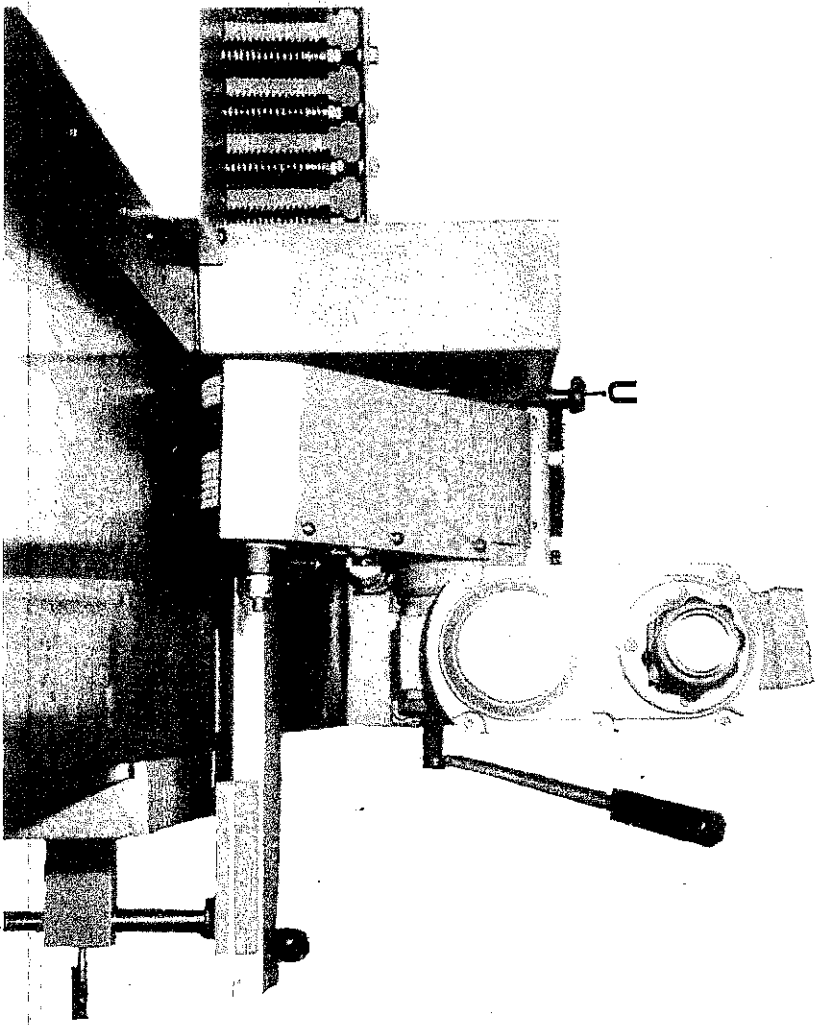
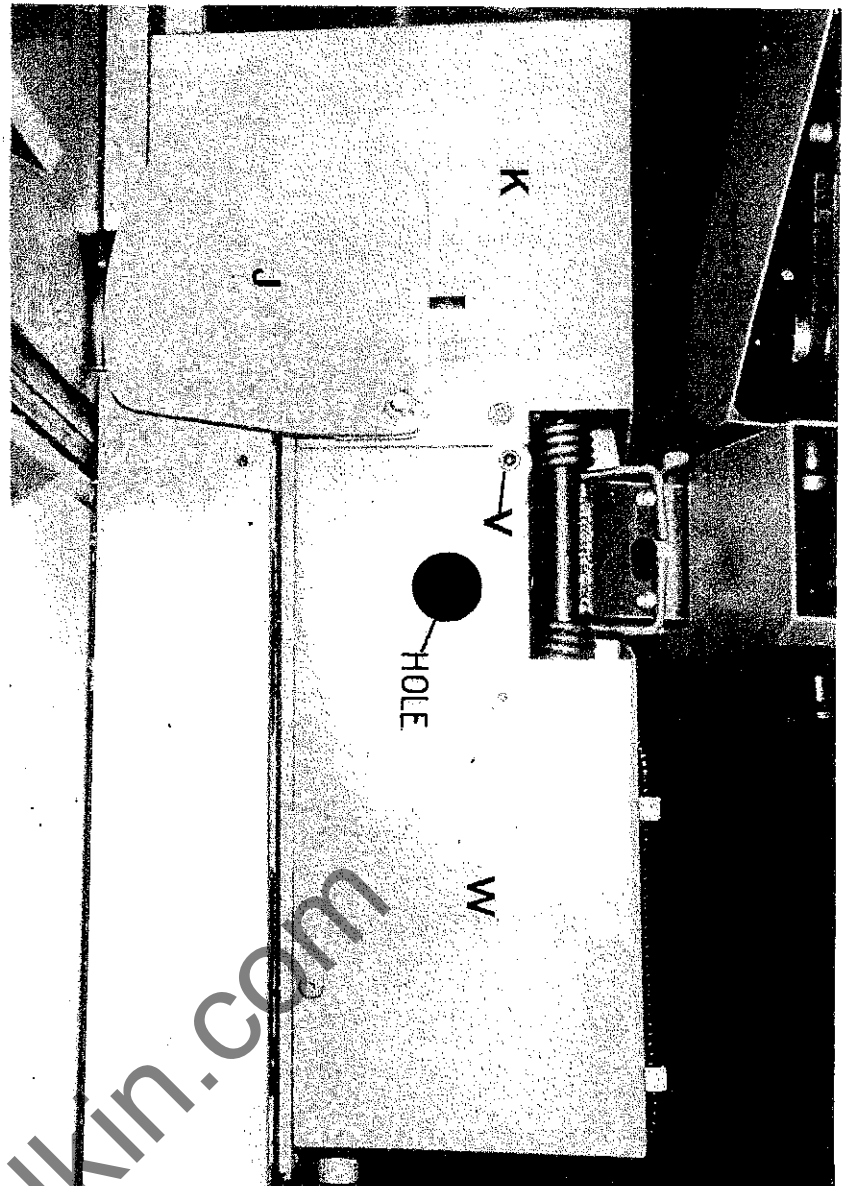

FIG. 29
FIG. 30
Tension of belt can be checked through hole under planer feed unit FIG.30. To gain access to hole and covers, loosen locking handwheel "U" FIG.29 and lift planer feed unit clear. If tensioning is required, proceed as follows:-
- b) Remove stop "V" from rear cover "W" FIG.30.
- d) Remove 2 - M8 button head screws and 1 - M8 countersunk screw from rear cover "W" FIG.30 (Countersunk screw situated at thicknesser side).
- f) Remove planer feed unit stop "V" FIG.30.
- g) Remove side head pivot guard "J" FIG.30 and stop behind guard.
- h) Remove 4 - M8 button head screws and 2 - M8 countersunk screws from covers "K" and "W" FIG.30 (2 - M8 countersunk screws are situated at thickneser side) and remove both covers.